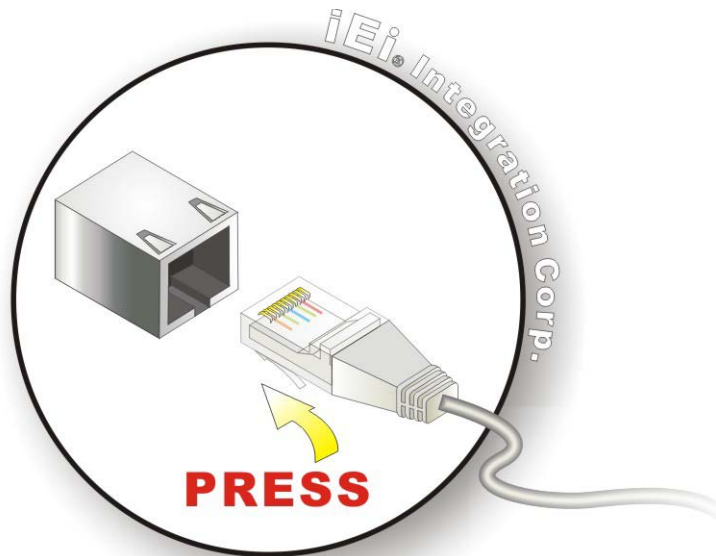

Figure 4-6: LAN Connection
Step 2: Align the connector. Align the RJ-45 connector on the LAN cable with the RJ-45 connectors on the HYPER-KBN. See **Figure 4-6**.